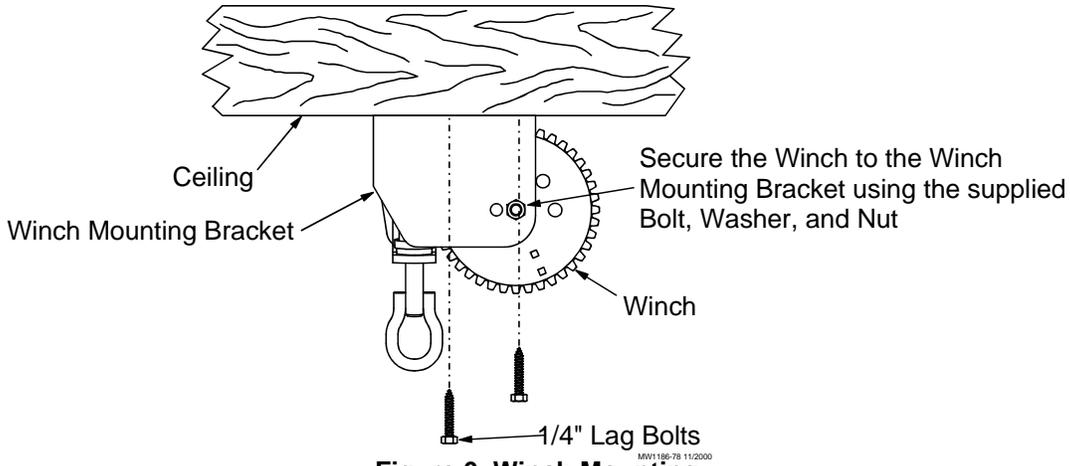

Figure 6. Winch Mounting
4. Mount the split drum winch as shown in **Figure 6**. Mount the winch to the ceiling or on a 2 x 8" [50 x 200 mm] board spanning at least two rafters for support. Use at least (4) 1/4" lag screws (not supplied) to secure winch to support. For systems less than 150' [46 m], the manual winch may be used in place of the split drum winch.
- Bolt the winch to the bracket, as shown in **Figure 6**.